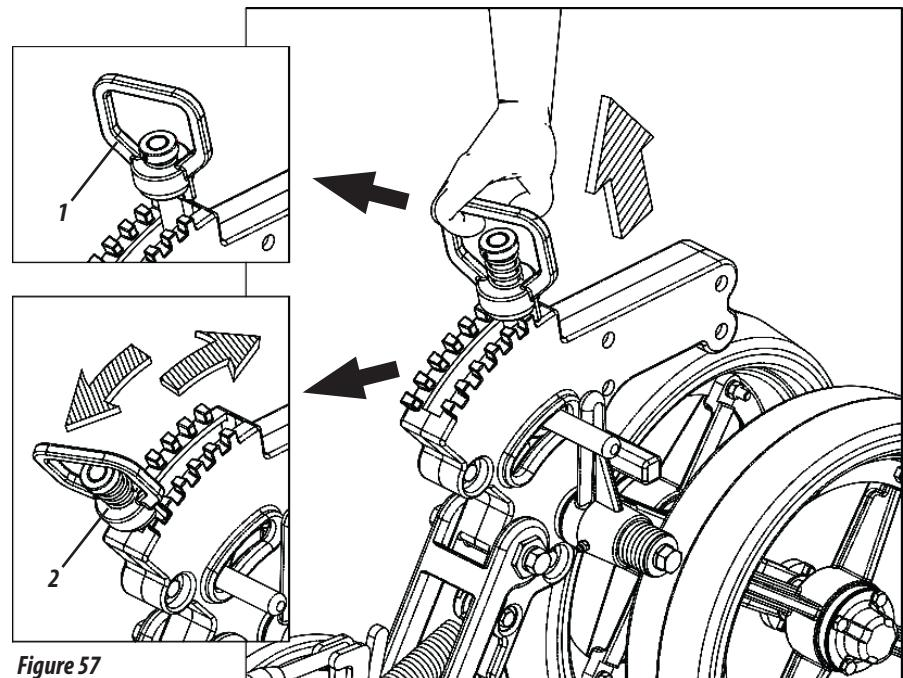

Figure 57
15- Pull the handle (1) up, move the regulator (2) to the desired position by adjusting the depth wheel (3), then lower the handle (1) locking the regulator (2) as shown in Figure 57.